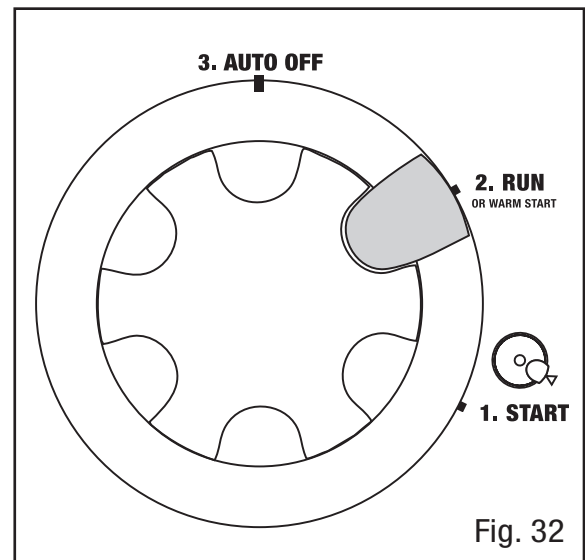

Fig. 32
4. Remove the fuel cap. Turn the 3-in-1 dial switch to the “RUN” position (Fig. 32). This will open up the fuel valve.